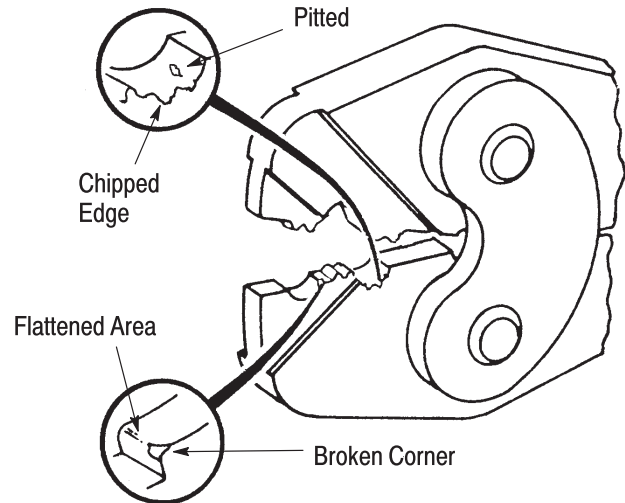

Figure 5
3. Inspect head assembly for worn, cracked, or broken jaws. Refer to Figure 5. If damage is evident, return the tool to Tyco Electronics for evaluation and repair. See Section 6, REPLACEMENT AND REPAIR.